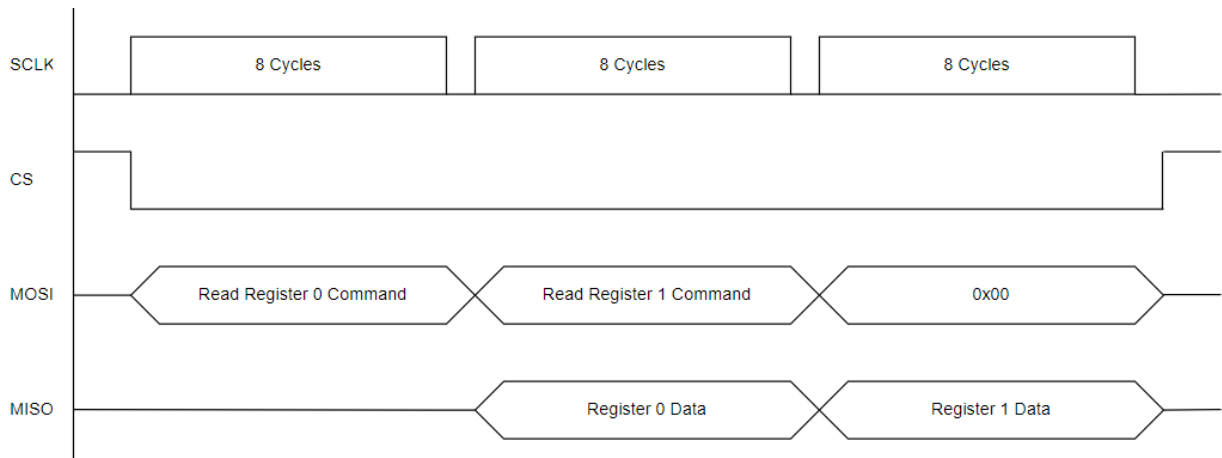

Figure 3: Consecutive Register Read Example
Recall the transaction in *Figure 3*, where register read commands were sent to an imaginary SPI device and the register data was returned with a 1-byte delay. Here we will demonstrate how to perform that transfer in C. We assume that the SPI bus is already initialized and that the file descriptor is available.
1. Allocate the buffers to send and receive. The transaction in *Figure 3* consisted of 2 register read commands, and the data returned is delayed by 1 byte, so the total transaction is 3 bytes long. Therefore, allocate 3 bytes for the buffer to send *and* for the buffer to receive.